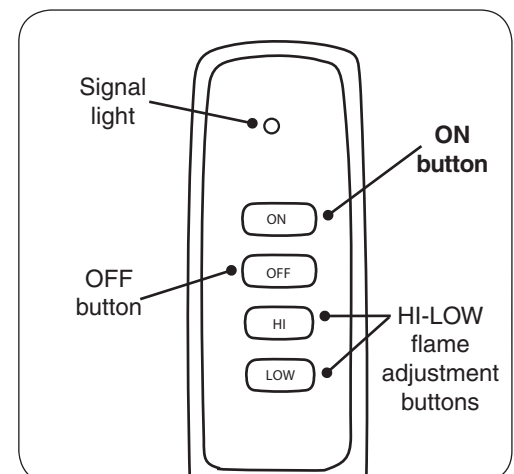

Fig. 35-3 Remote transmitter detail
3. Locate the remote transmitter and press the **ON** button (see Fig. 35-3). The system will beep and the ignition sequence will begin.